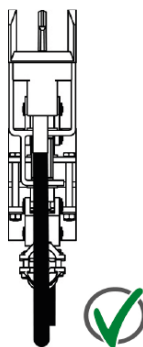

Fig. 116: Connecting cable is not twisted
- Tension the towing arm (Pos. 1) in the middle support (square) (Pos. 3) of the current collector. At the same time, gradually tighten the outer M10 nuts (Pos. 2) in alternation with the specified torque (SW 17, torque wrench: **44 Nm**) (see Fig. 116). Pay attention to the tolerances and instructions provided above.